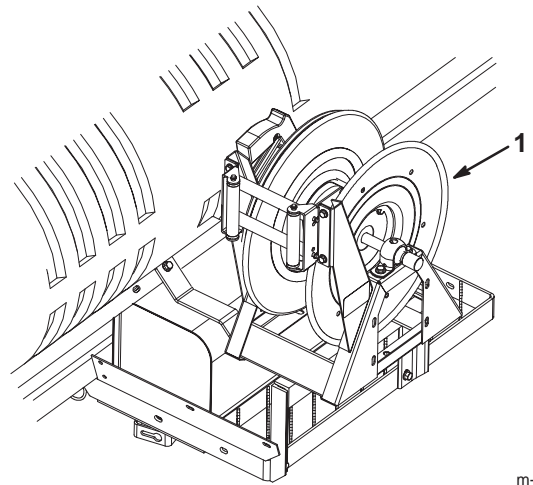

Figure 3
5. Install the hose reel assembly onto the hose reel straps (Fig. 3) using 4 flange-head bolts (3/8 x 1 inch) and 4 flange nuts (3/8 inch).